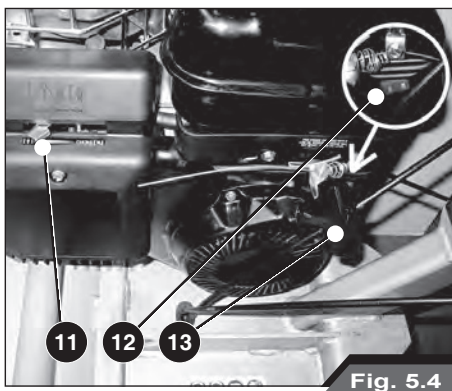

Fig. 5.4
- Put the engine ON/OFF switch onto **ON** (12, Fig. 5.4).
- Take hold of the engine starting handle (13), pull gently so as to help hook on the ratchet. Then give it a sharp tug, if necessary you can help yourself by resting your foot on the wheel to pull more strongly. Repeat this operation always giving short, sharp tugs until the engine ignites